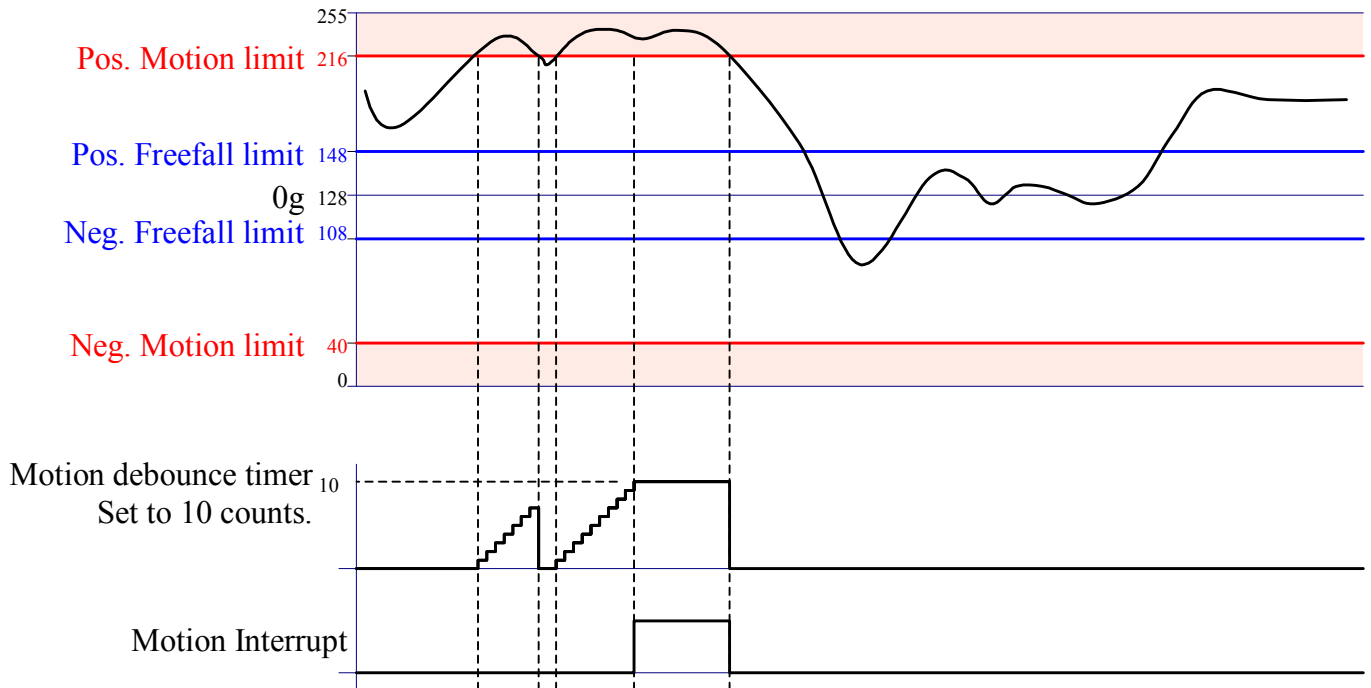

Figure 7. Typical Motion Interrupt Example (MOTLatch = 0)
**MOTLatch** switches the motion interrupt function between latching and non-latching as shown in Figures 7 and 8